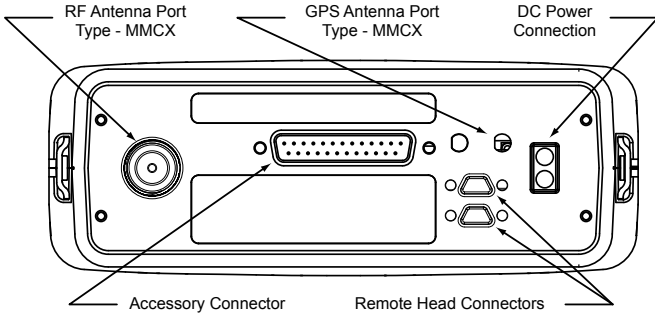

Figure 5 - Dash Mount/Radio Core Back Panel Connections
5. Attach the RF antenna (and GPS antenna if used) to the radio's antenna port(s). (See Figure 5)
3. Attach the cable to one of the two remote head connectors on the back of the main unit. (See Figure 5).